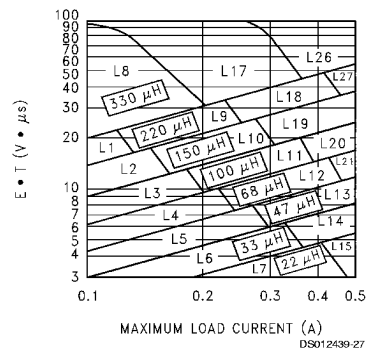

FIGURE 7. LM2594/LM2594HV-ADJ
1. Programming Output Voltage (Selecting R_1 and R_2, as shown in Figure 1.) Use the following formula to select the appropriate resistor values. $V_{OUT} = V_{REF} \left(1 + \frac{R_2}{R_1} \right) \text{ where } V_{REF} = 1.23V$ Select a value for R_1 between 240Ω and 1.5 kΩ. The lower resistor values minimize noise pickup in the sensitive feedback pin. (For the lowest temperature coefficient and the best stability with time, use 1% metal film resistors.) $R_2 = R_1 \left(\frac{V_{OUT}}{V_{REF}} - 1 \right)$ 2. Inductor Selection (L1) A. Calculate the inductor Volt microsecond constant $E \cdot T$ ($V \cdot \mu s$), from the following formula: $E \cdot T = (V_{IN} - V_{OUT} - V_{SAT}) \cdot \frac{V_{OUT} + V_D}{V_{IN} - V_{SAT} + V_D} \cdot \frac{1000}{150 \text{ kHz}} (V \cdot \mu s)$ where V_{SAT} = internal switch saturation voltage = 0.9V and V_D = diode forward voltage drop = 0.5V B. Use the $E \cdot T$ value from the previous formula and match it with the $E \cdot T$ number on the vertical axis of the Inductor Value Selection Guide shown in Figure 7. C. on the horizontal axis, select the maximum load current. D. Identify the inductance region intersected by the $E \cdot T$ value and the Maximum Load Current value. Each region is identified by an inductance value and an inductor code (LXX). E. Select an appropriate inductor from the four manufacturer's part numbers listed in Figure 8. 3. Output Capacitor Selection (C_{OUT}) A. In the majority of applications, low ESR electrolytic or solid tantalum capacitors between 82 μF and 220 μF provide the best results. This capacitor should be located close to the IC using short capacitor leads and short copper traces. Do not use capacitors larger than 220 μF. For additional information, see section on output capacitors in application information section. B. To simplify the capacitor selection procedure, refer to the quick design table shown in Figure 3. This table contains different output voltages, and lists various output capacitors that will provide the best design solutions. C. The capacitor voltage rating should be at least 1.5 times greater than the output voltage, and often much higher voltage ratings are needed to satisfy the low ESR requirements needed for low output ripple voltage.	1. Programming Output Voltage (Selecting R_1 and R_2, as shown in Figure 1.) Select R_1 to be 1 kΩ, 1%. Solve for R_2. $R_2 = R_1 \left(\frac{V_{OUT}}{V_{REF}} - 1 \right) = 1k \left(\frac{20V}{1.23V} - 1 \right)$ $R_2 = 1k (16.26 - 1) = 15.26k$, closest 1% value is 15.4 kΩ. $R_2 = 15.4 \text{ k}\Omega$. 2. Inductor Selection (L1) A. Calculate the inductor Volt • microsecond constant ($E \cdot T$), $E \cdot T = (28 - 20 - 0.9) \cdot \frac{20 + 0.5}{28 - 0.9 + 0.5} \cdot \frac{1000}{150} (V \cdot \mu s)$ $E \cdot T = (7.1) \cdot \frac{20.5}{27.6} \cdot 6.67 (V \cdot \mu s) = 35.2 (V \cdot \mu s)$ B. $E \cdot T = 35.2 (V \cdot \mu s)$ C. $I_{LOAD(max)} = 0.5A$ D. From the inductor value selection guide shown in Figure 7, the inductance region intersected by the 35 ($V \cdot \mu s$) horizontal line and the 0.5A vertical line is 150 μH, and the inductor code is L19. E. From the table in Figure 8, locate line L19, and select an inductor part number from the list of manufacturers part numbers. 3. Output Capacitor Selection (C_{OUT}) A. See section on C_{OUT} in Application Information section. B. From the quick design table shown in Figure 3, locate the output voltage column. From that column, locate the output voltage closest to the output voltage in your application. In this example, select the 24V line. Under the output capacitor section, select a capacitor from the list of through hole electrolytic or surface mount tantalum types from four different capacitor manufacturers. It is recommended that both the manufacturers and the manufacturers series that are listed in the table be used. In this example, through hole aluminum electrolytic capacitors from several different manufacturers are available. 82 μF 50V Panasonic HFQ Series 120 μF 50V Nichicon PL Series C. For a 20V output, a capacitor rating of at least 30V or more is needed. In this example, either a 35V or 50V capacitor would work. A 50V rating was chosen because it has a lower ESR which provides a lower output ripple voltage. Other manufacturers or other types of capacitors may also be used, provided the capacitor specifications (especially the 100 kHz ESR) closely match the types listed in the table. Refer to the capacitor manufacturers data sheet for this information.